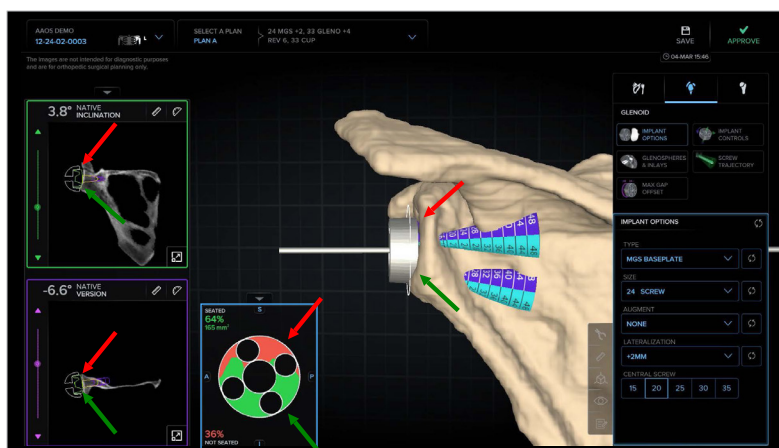

Figure 35. Backside Seating feature
Backside Seating (Figure 35)
- This measurement can be maximized or minimized using the arrow above the Backside Seating Heat Map (shown in blue box in Figure 35).
- This feature shows areas where the backside of the implant is not contacting bone in red (see red arrows in Figure 35) and areas where the backside of the implant is contacting bone in green (see green arrows in Figure 35) in both 2D and 3D views.